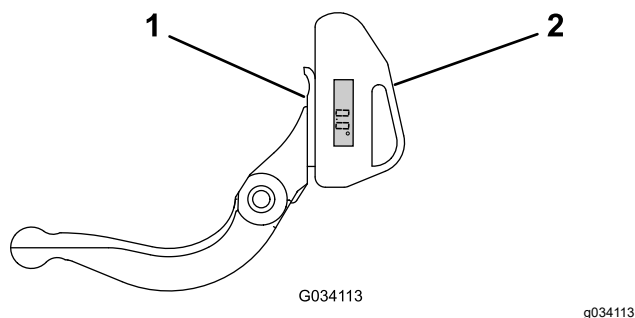

Figure 19
1. Place the angle indicator on the bottom side of the bedknife as shown in Figure 19.